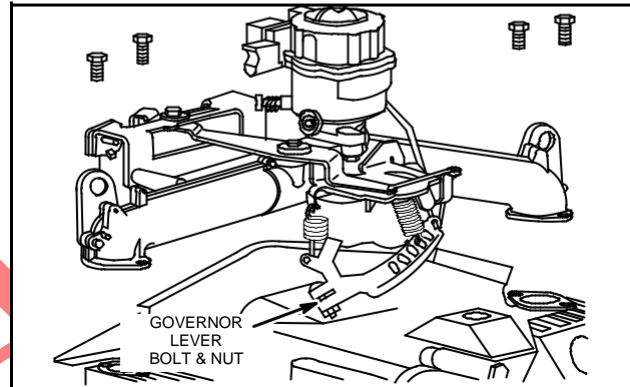

Fig. 11 – Remove Intake Manifold & Carburetor
Carburetor and intake manifold must be removed as an assembly, Fig. 11.
5. Remove intake manifold and carburetor with governor lever and springs, Fig. 11.